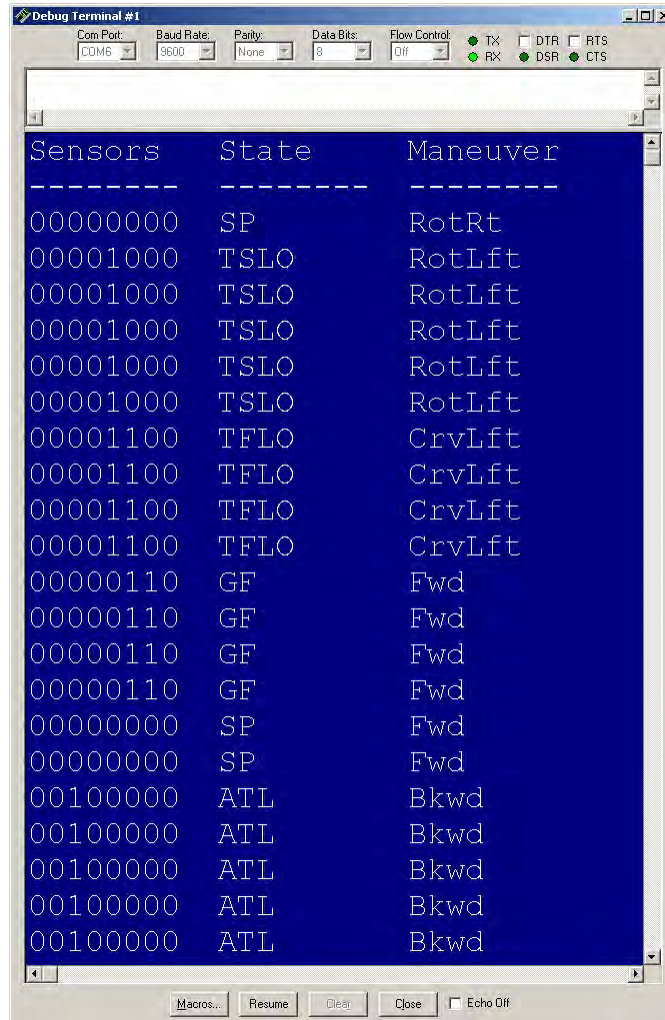

Figure 5-2
Figure 5-2 shows an example of what the Debug Terminal displays.
- ✓ To emulate the output shown in Figure 5-2, start with an object on the SumoBot's left side.